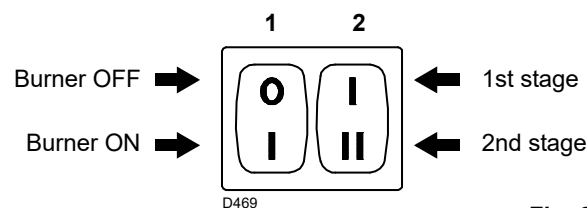

Fig. 27
- switch 1)(Fig. 27) to the "Burner ON" position;
- switch 2)(Fig. 27) to the "1st stage" position.
Now turn switch 2)(Fig. 27, page 25) to the 2nd stage position: the servomotor will open the air damper and, at the same time, the gas butterfly valve at 90°.
Turn switch 2)(Fig. 27, page 25) to the 1st stage position: the servomotor 1) will close the air damper and, at the same time, will also close the gas butterfly valve to 15° (i.e. to the factory setting).
- If it is necessary to increase it, pass to 2nd stage by activating switch 2) Fig. 27, page 25 and slightly increase the angle of the orange lever with small, regular movements (i.e. bring it from an angle of 15° to 17° - 19°....).